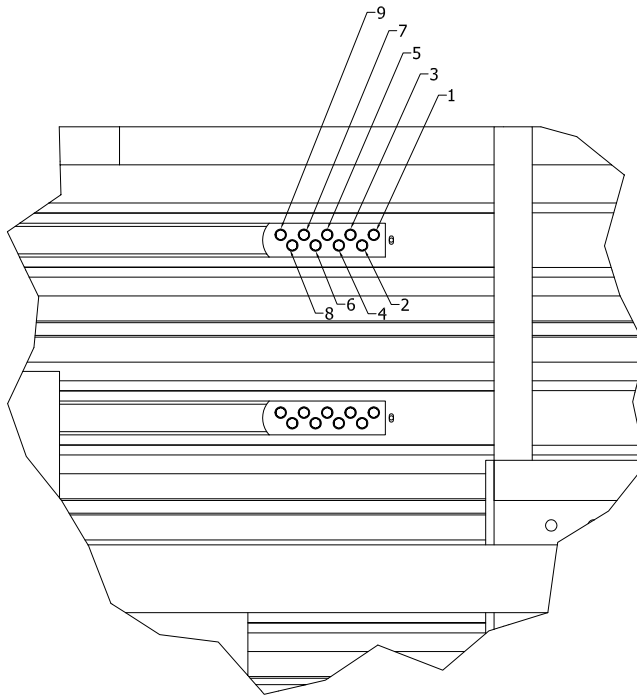

Figure 42
11. Tighten bolts in sequence 1,2,3....9 (Figure 42). Cycle through tightening two times to assure proper torque.